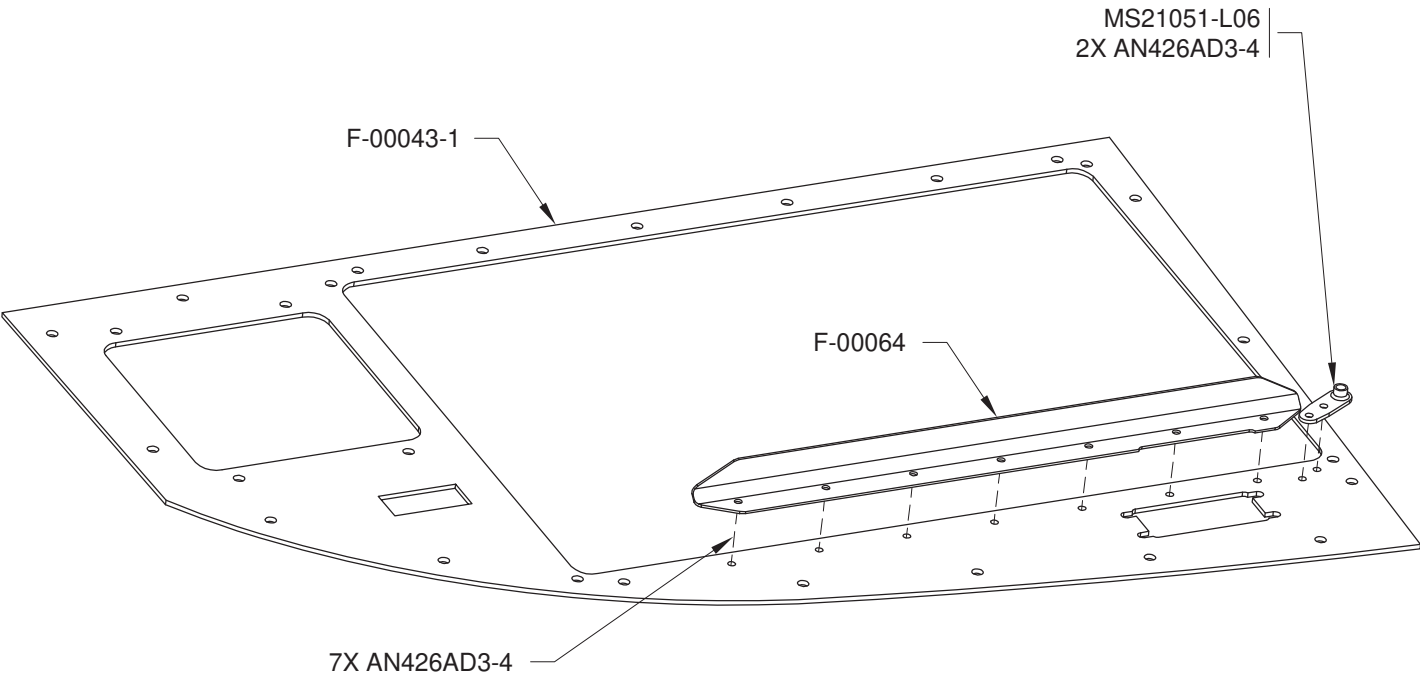

FIGURE 3: ASSEMBLING THE G3X PANEL
Step 3: Rivet the F-00064 and the nutplate to the F-00043-1. See Figure 3.
Step 4: Now would be a good time to prime/paint the F-00043-1, F-00044-2, and F-00144 as desired. See Figures 3, 4, and 5.